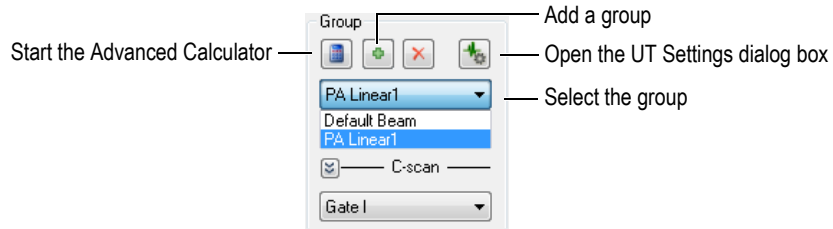

Figure 4-4 Selecting the newly created group
1. In the **TomoView Manager**, click  to add a group (see Figure 4-4 on page 231).
3. In the **TomoView Manager**, in the **Group** area (see Figure 4-4 on page 231):